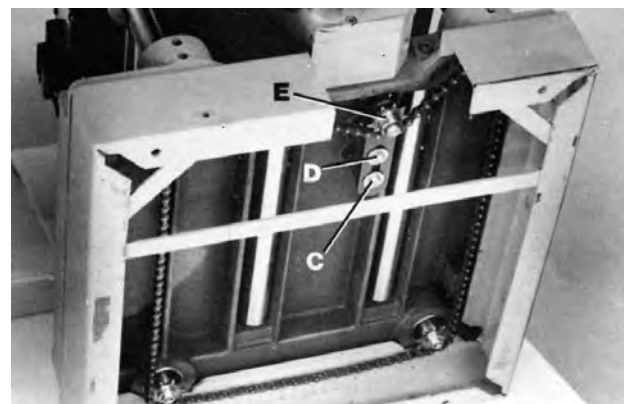
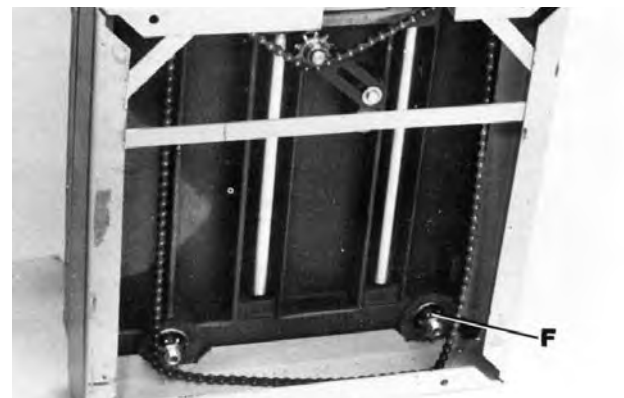

FIGURE 32
FIGURE 33
5. If the head casting is not parallel to table, unassemble the planer from its enclosed stand and then tilt planer on its side as shown in Fig.32. Remove hex. bolt (C) and loosen hex. bolt (D) Fig.32 which will allow you to move the idler sprocket assembly (E) far enough to release tension on chain as shown in Fig.33. Remove chain from sprocket on end of head casting that must be adjusted. In this case the chain has been removed from sprocket (F).
6. Turn sprocket (F) Fig.33 by hand to bring that corner into adjustment with the other three corners. **IMPORTANT: THIS ADJUSTMENT IS VERY SENSITIVE AND IT SHOULD NOT BE NECESSARY TO TURN THE SPROCKET MORE THAN ONE OR TWO TEETH.** Turning sprocket (F) clockwise will decrease the distance between the table and head casting. Counterclockwise will increase the distance.
7. Replace chain being careful not to disturb the position of the sprockets and replace idler sprocket assembly (E) Fig.32.